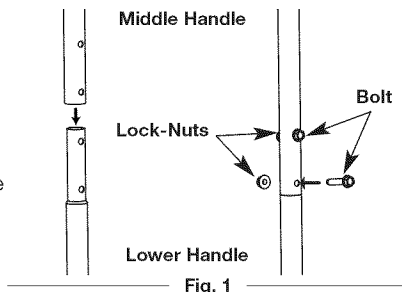

Fig. 1
2. Place the 2-holed end of the straight middle shaft over the lower shaft on the unit and align the holes (Fig. 1). Make sure the "TO START" label is facing up.
3. Insert the 2 flange-head bolts (1/4" x 1-1/4") into these holes (Fig. 1).